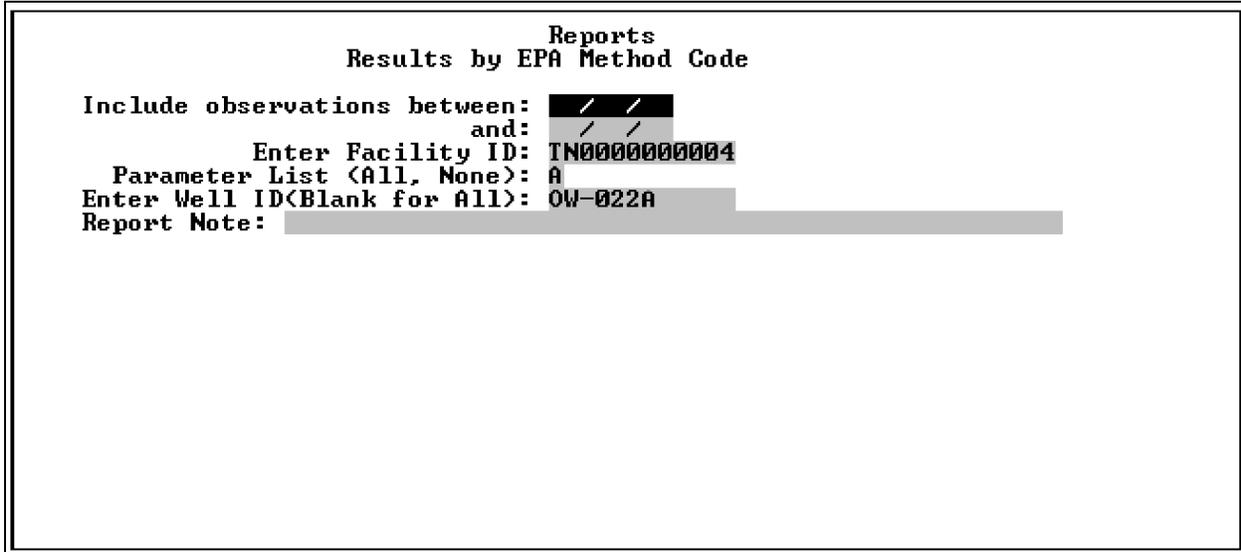

Figure 10-105. The Results by EPA Method Code dialog.
1. Use the up and down arrow keys to highlight the Results by EPA Method Code option of the Groundwater Reports Menu and press <Enter>. The Results by EPA Method Code dialog appears on your screen as shown in Figure 10-105.